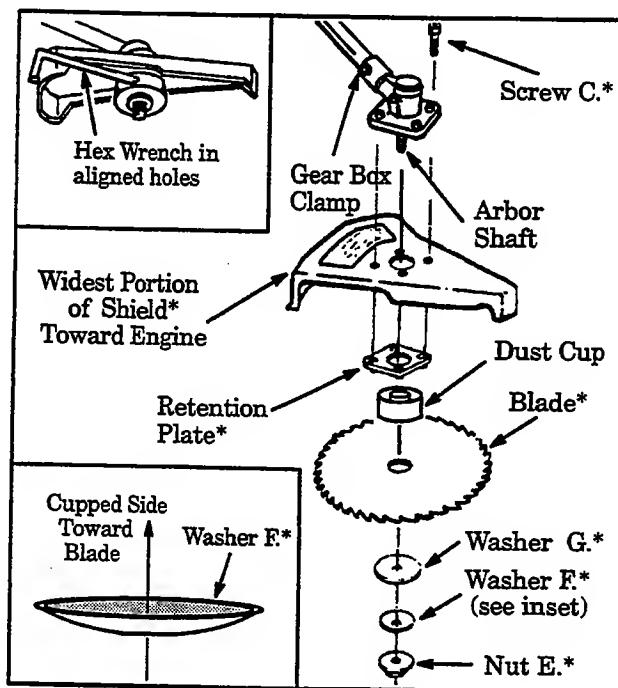

Figure 6
Failure to install the shield in the position shown in Figures 6 and 7 can result in serious injury to the operator. The length of the shield must be aligned with the length of the tube. Direct widest part of the shield toward the engine.
- Position the retention plate on the underside of the metal shield and align screw holes. Make sure the flat side of the plate is against the metal shield. Figure 6.
- Hold the retention plate in position and place the metal shield under the gear box. Align screw holes. Figure 6.
- h. Install blade over arbor shaft, making sure the hole in the center of the blade is fitted around the raised center on the dust cup. Figure 6.
NOTE: When installing blade, make sure teeth on blade are oriented as shown in Figure 6.
- i. Install the large flat washer "G.", cupped washer "F.", and nut "E." as shown in Figure 6. Be sure cupped washer "F." is installed as shown in Figure 6 (inset).
- k. Insert the large hex wrench (provided) into the aligned holes. Figure 6 (inset, upper left).